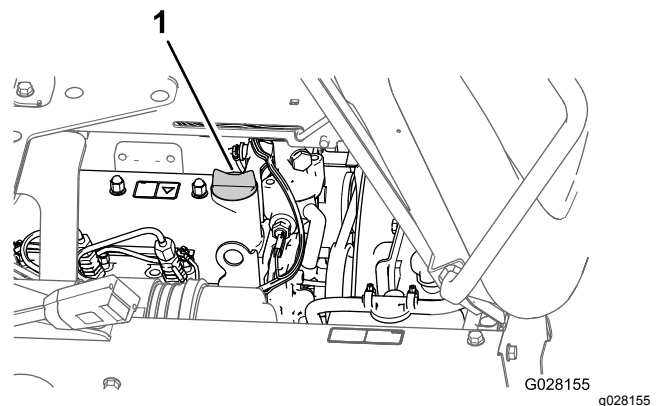

Figure 72
5. Remove the oil-filler cap from the filler neck of the valve cover of the engine and slowly pour approximately 80% of the specified amount of oil into the filler neck (Figure 72).
- Install the oil-filler cap into the filler neck (Figure 72).